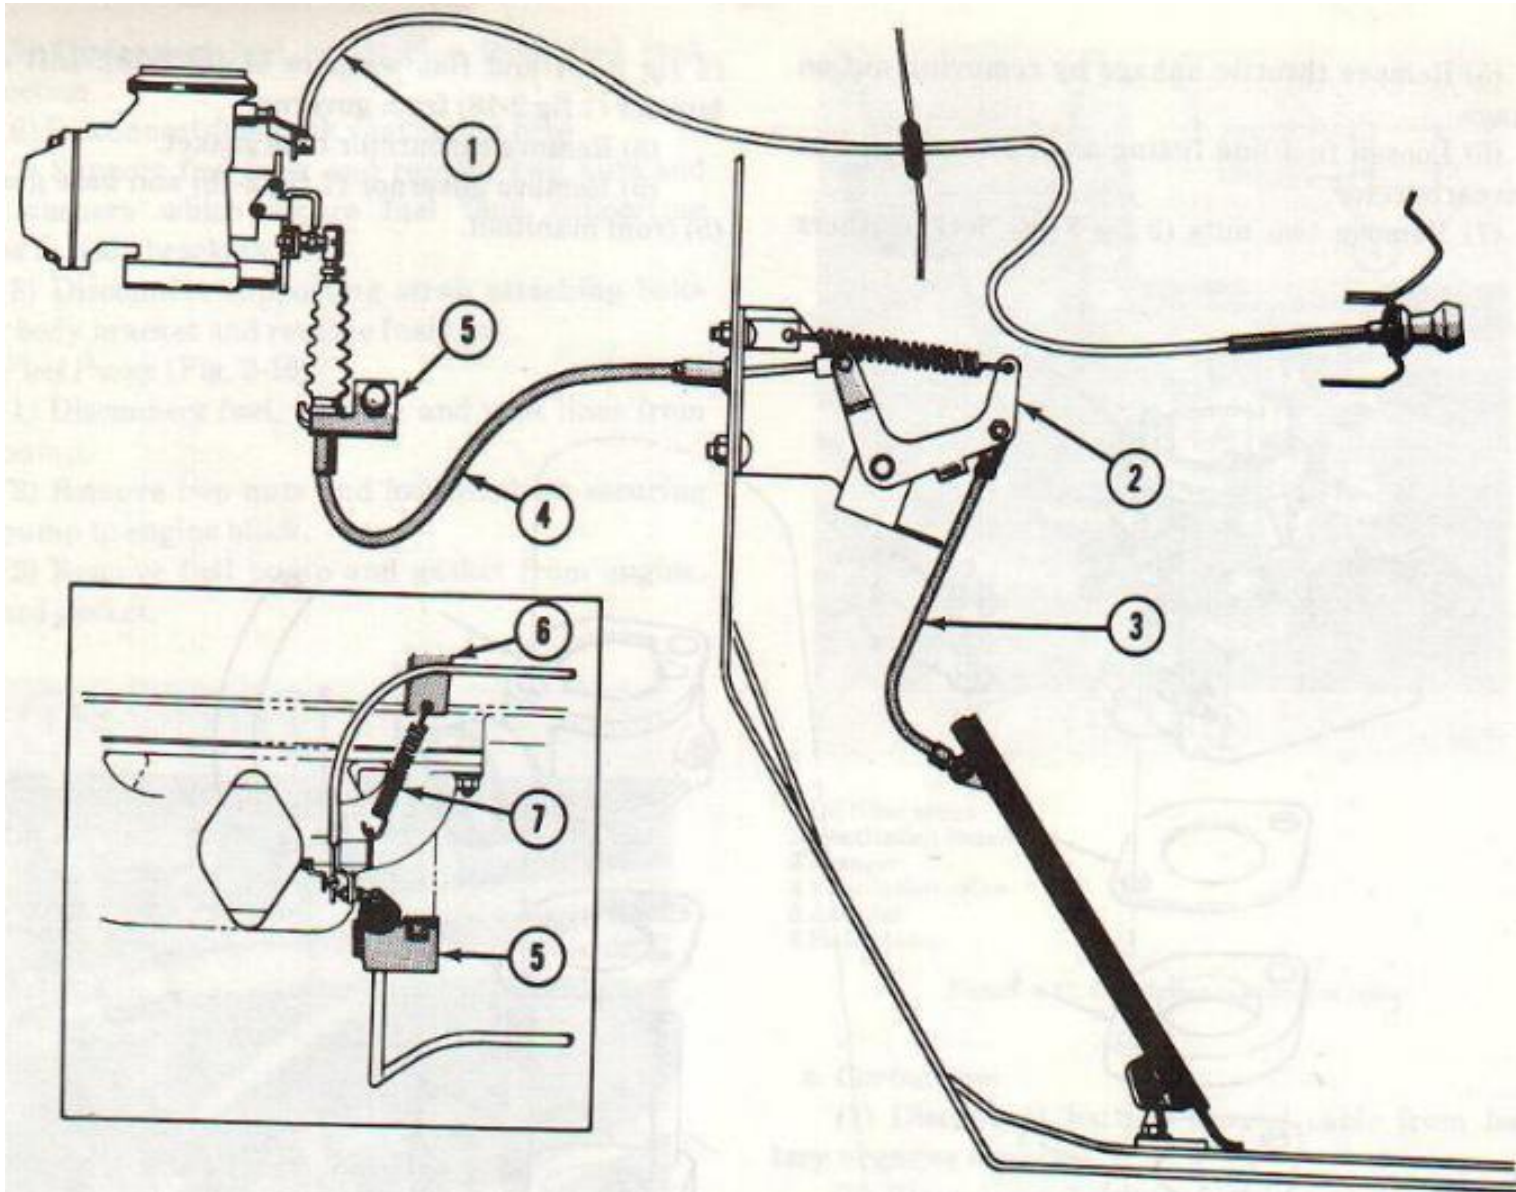

Figure 2-19. Accelerator linkage, control cable and choke control.
- (1) Loosen screw which secures choke control wire (1 fig 2-19) to choke blade swivel.
- (2) Loosen cable clamp screw and lock washer cable from clamp.
- (3) Remove nut and lock washer which secure cable behind instrument panel.
- (4) Remove cable by pulling assembly through firewall grommet and instrument panel.
- (1) Remove accelerator linkage return spring (7 fig 2-19) from carburetor throttle lever and rear rocker arm support bracket.
- (2) Remove nut which secures accelerator cable to throttle lever. Disconnect cable from lever.
- (3) Remove retainer clip attaching accelerator cable housing to manifold. Remove cable from bracket.
- (4) Remove bellcrank return spring attached to inside firewall.
- (5) Remove cotter key securing accelerator cable to bellcrank.
- (6) Remove retainer clip securing accelerator cable to inside firewall.
- (7) Remove nut connecting accelerator rod to bellcrank assembly. Remove bolts attaching bell-crank to firewall. Remove bellcrank assembly (2 fig 2-19).
- (8) Remove two phillips screws which secure accelerator pedal to floor panel. Remove accelerator pedal.
- (1) Install fuel filter in-line between fuel pump and carburetor.
- (2) Connect fuel inlet and outlet lines to filter and tighten clamps.
g. Choke Control Cable. (Fig 2-19)
- (1) Insert cable through instrument panel and grommet in firewall. Insure that attaching sock washer and nut are on cable before inserting through firewall.
- (2) Tighten nut which secures cable housing to instrument panel.
- (3) Insert cable housing through clamp and insert cable into choke blade lever retainer. Tighten screw which secures cable housing in clamp.
- (4) Push choke cable tight against instrument panel.
- (5) Insure that choke blade is completely open and tighten cable retaining screw,
h. Accelerator Pedal and Linkage. (Fig 2-19)
- (1) Position accelerator pedal on floor panel. Install attaching screws and tighten.
- (2) Position bellcrank assembly on inside firewall.
- (3) Install attaching bolts and tighten.
- (4) Install nut securing accelerator pedal rod to bellcrank assembly. Tighten nut.
- (5) Install retainer clip securing accelerator cable to insides firewall.
- (6) Install cotter key securing accelerator cable to bellcrank.
- (7) Install bellcrank return spring to bracket on inside firewall.
- (8) Install retainer clip securing accelerator cable housing to manifold.
- (9) Install nut which secures accelerator cable in throttle lever.